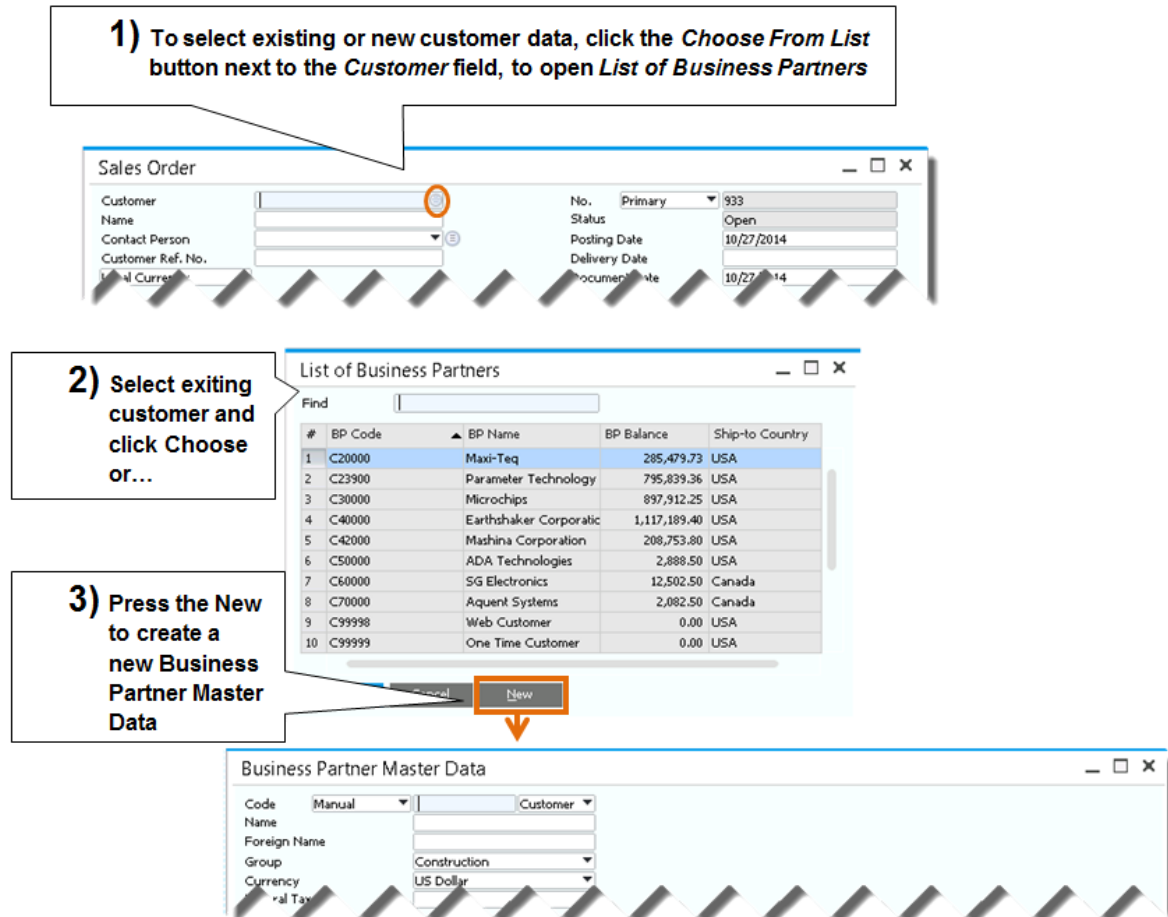

Figure 5-3: Specifying a customer in a sales document
To locate existing customer information, click on the button to the right of the *Customer* field in the document header or press the **Tab** key or the **Choose from List** icon in the *Customer* field. The *List of Business Partners* window appears (see Figure 5-3).
- *Customer* field: See Figure 5-3